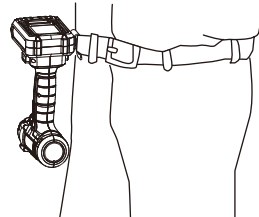

Fig. 11
3. The belt clip (9) can be hooked on your belt or pocket, etc (Fig. 11).